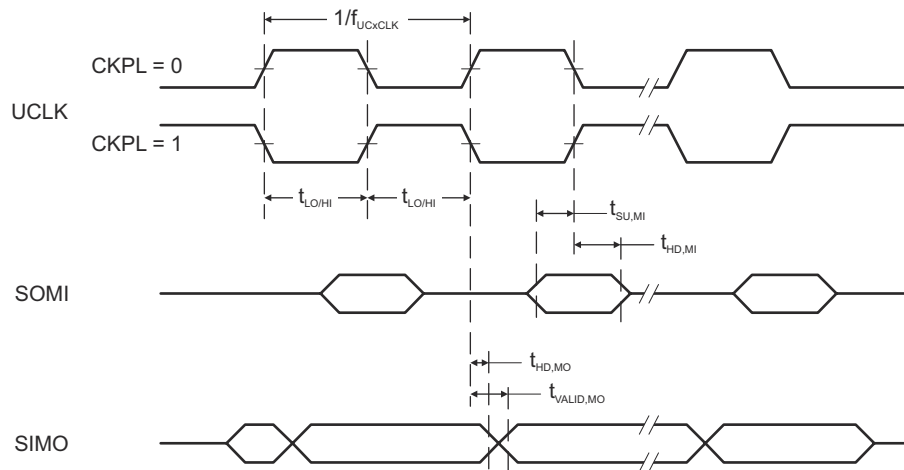
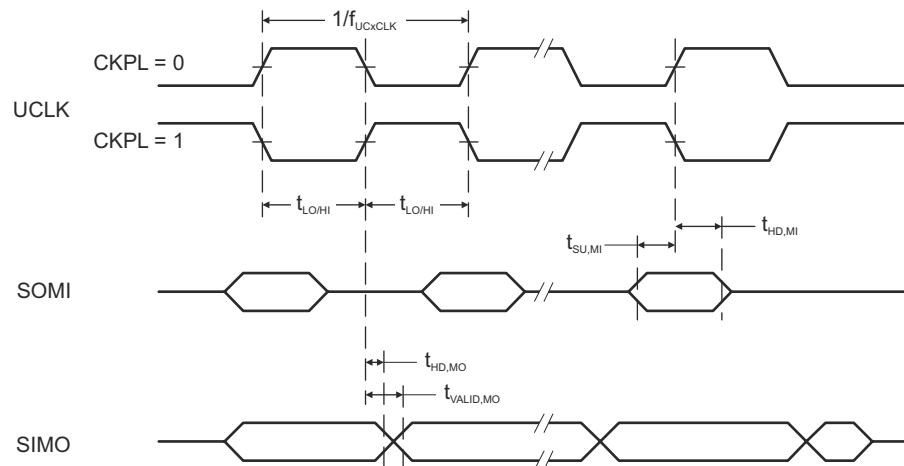

Figure 8-13. SPI Master Mode, CKPH = 0
Figure 8-14. SPI Master Mode, CKPH = 1
(see Figure 8-13 and Figure 8-14)
- (2) Specifies the time to drive the next valid data to the SIMO output after the output changing UCLK clock edge. See the timing diagrams in Figure 8-13 and Figure 8-14.
- (3) Specifies how long data on the SIMO output is valid after the output changing UCLK clock edge. Negative values indicate that the data on the SIMO output can become invalid before the output changing clock edge observed on UCLK. See the timing diagrams in Figure 8-13 and Figure 8-14.